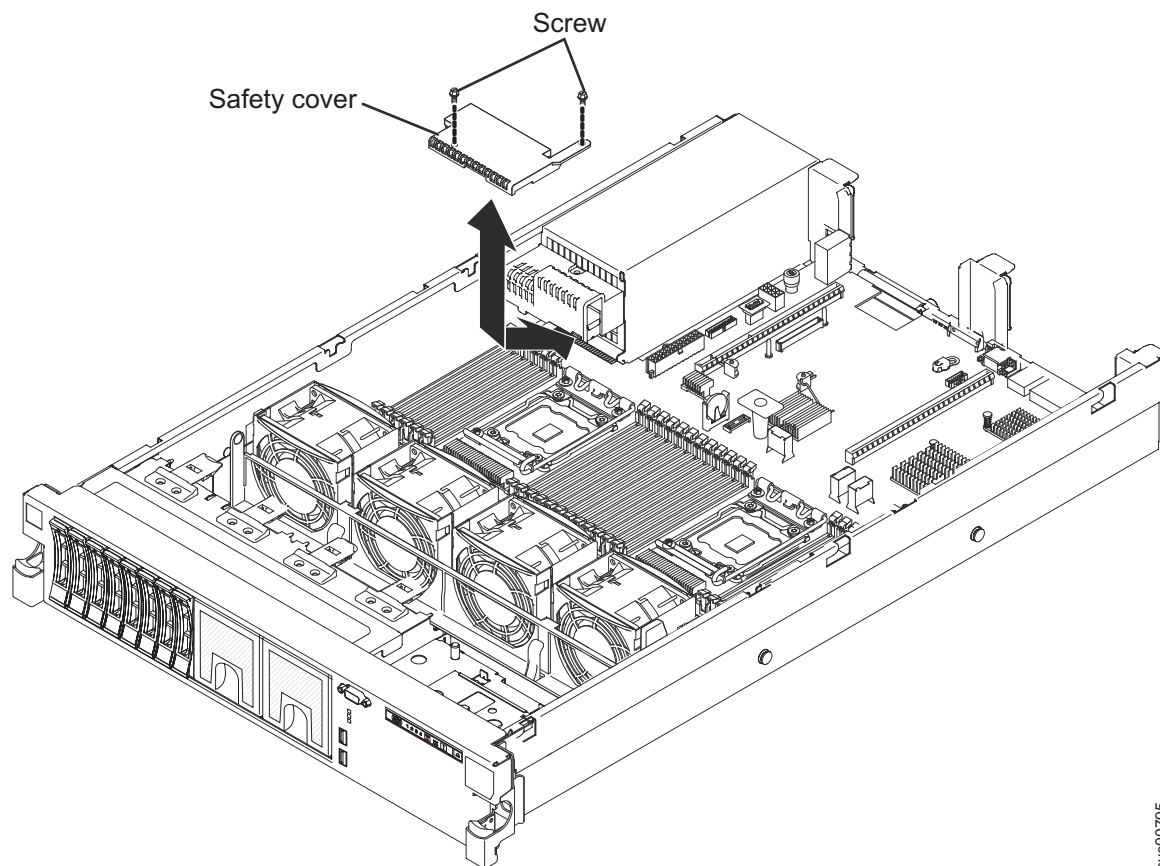

Figure 94. Removing the SAN Volume Controller 2145-DH8 240 VA safety cover
5. Slide the cover forward to disengage it from the system board, and then lift it out of the server, as shown in Figure 94